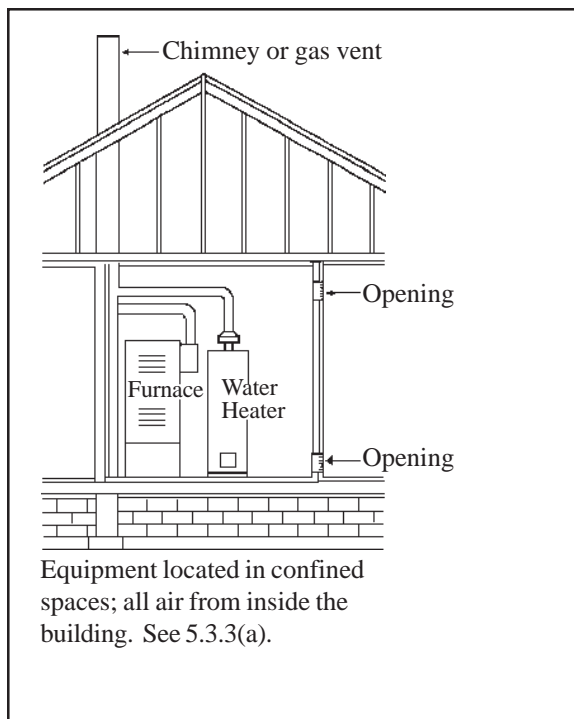
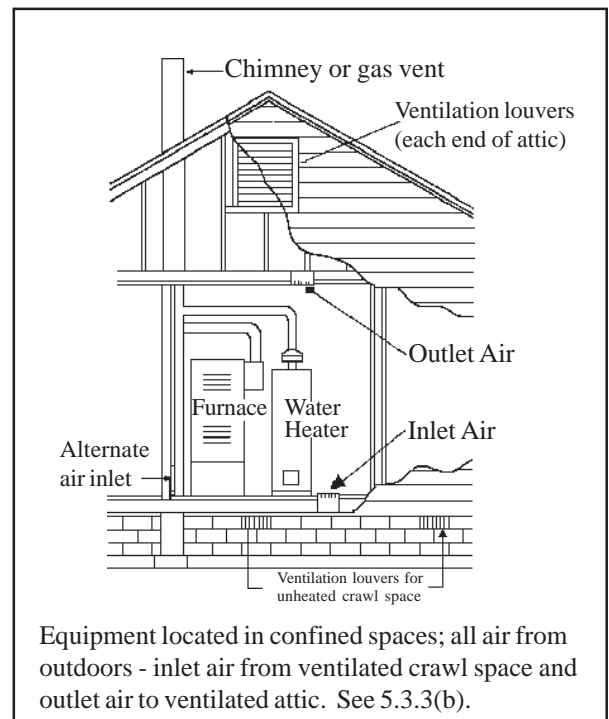

FIGURE 9
FIGURE 10
**NOTE:** A third construction class is one with unusually tight construction, defined as, construction where: (A) Walls and ceilings exposed to the outside atmosphere have a continuous water vapor retarder with a rating of 1 per (6x10-11 Kg per pa-sec-m2) or less with openings gasketed or sealed, and, (B) Weatherstripping has been added on openable windows and doors, and, (C) Caulking or sealants are applied to areas such as joints around window and door frames, between sole plates and floors, between wall ceiling joints, between wall panels, at penetration for plumbing, electrical, and gas lines, and at other openings.
**“WARNING:** If the area in which the heater may be operated does not meet the required volume for indoor combustion air, combustion and ventilation air shall be provided by one of the methods described in the *National Fuel Gas Code*, ANSI Z223.1/NFPA 54 Air for Combustion and Ventilation, the International Fuel Gas Code, or applicable local codes.” Examples would be to provide two permanent openings either to an adjoining room, or to the outside. See the *National Fuel Gas Code* for details. See Figure 9 & Figure 10 below.